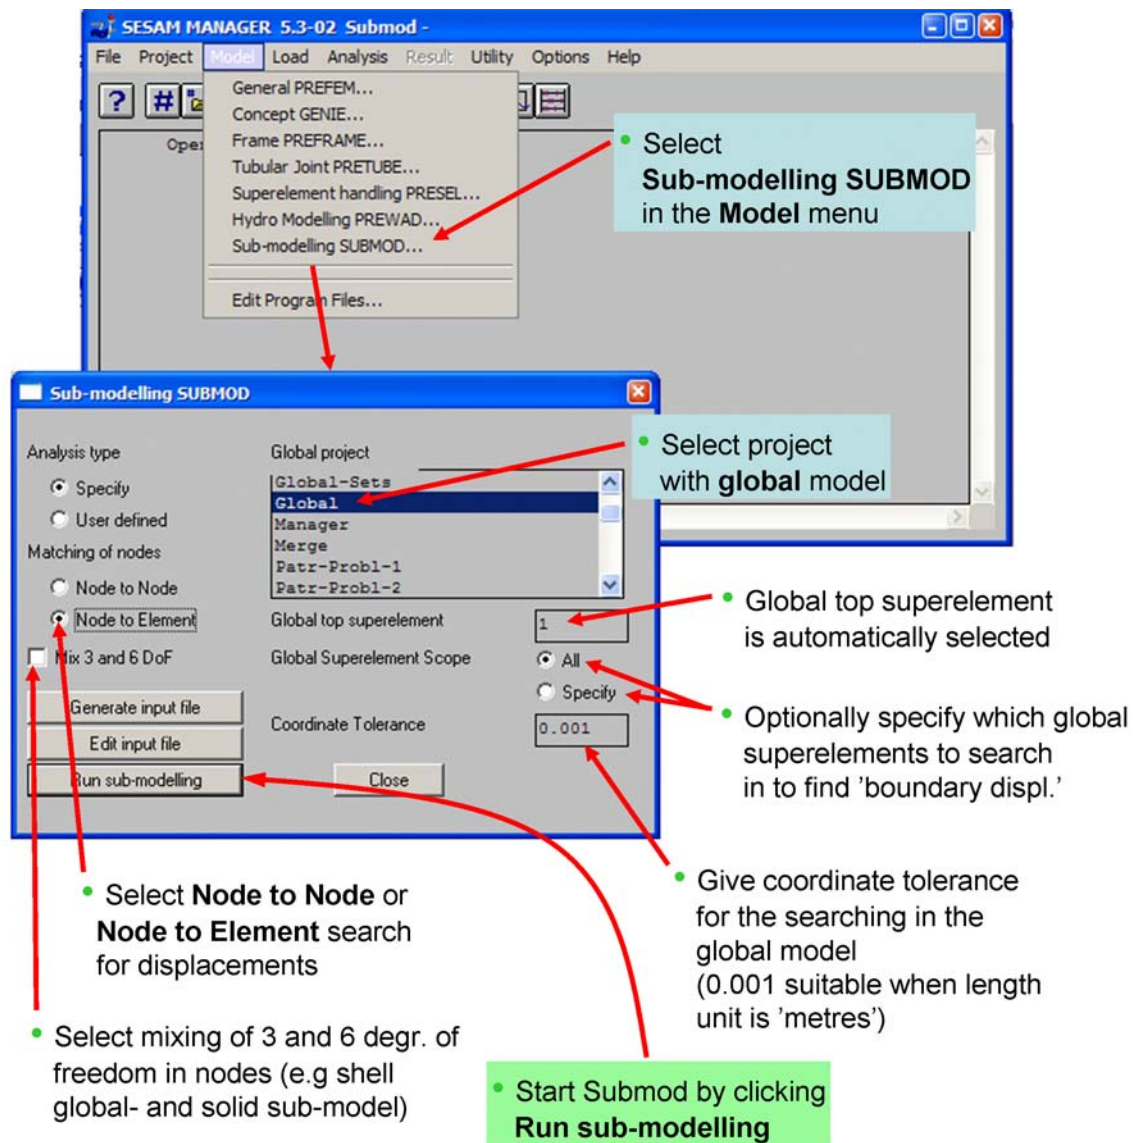

Figure 3.2 Input to Submod in SESAM Manager
- (Figure 3.2) Select **All** the superelements in the global model to search for geometric match of the boundary nodes of the sub-model.